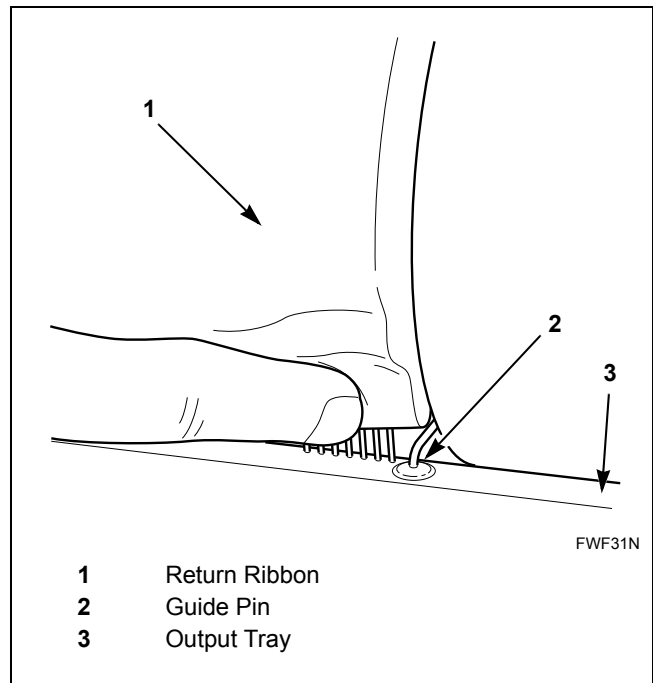

Figure 32
13. Verify that new return ribbon is placed in between the guide pins of output tray in front of machine. Refer to *Figure 32*.